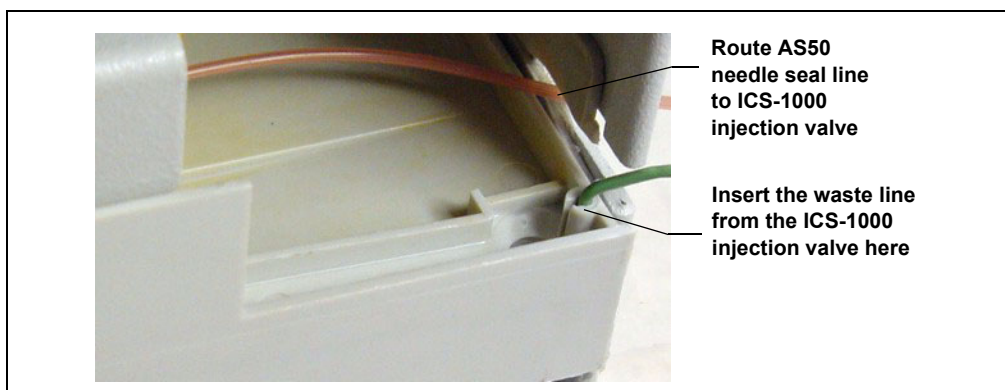

Figure 38. AS50 Drip Tray
3. The needle seal line that extends from the inject port in the autosampler is coiled inside the AS50 door, on the right side. Route this line through the AS50 right side slot (see Figure 38) and the ICS-1000 left side slot to the ICS-1000 injection valve.
6. Push the end of the green **AS50 TRAY** line into the small round opening on the right side of the AS50 tray (see Figure 38).